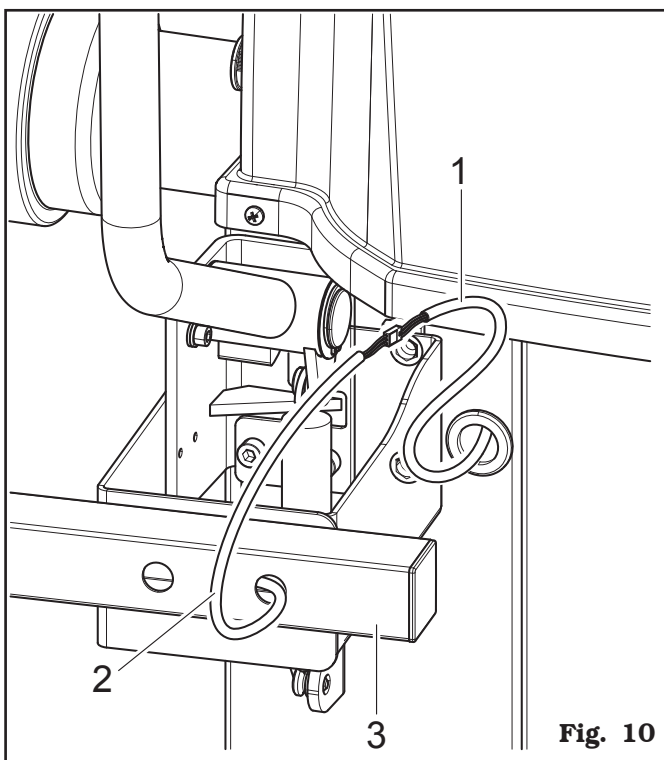

Fig. 10
4. Connect connector (**Fig. 10 ref. 1**) of the cable coming from inside the machine to connector (**Fig. 10 ref. 2**) of the cable coming from the gauge arm. Fit the section of the cable with the connectors inside the arm (**Fig. 10 ref. 3**).